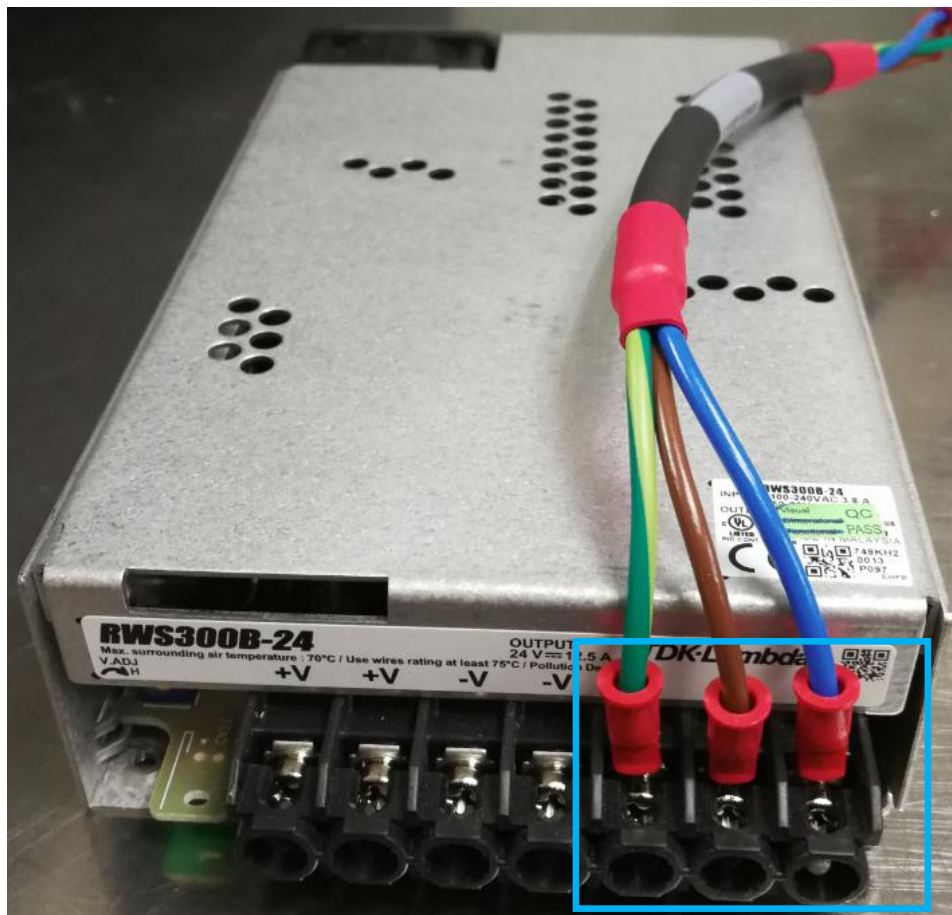

Figure 16 Power Switch Cable Removal
18. Remove Power Switch Cable from Power Supply as below Figure 16